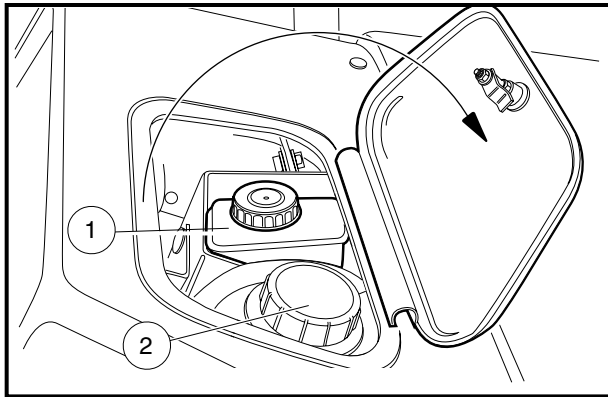

Figure 17 Brake Fluid and Coolant Access Door
The brake fluid reservoir (1) is located under the dashboard (**Figure 17**). Raise the access panel located on top of the dashboard to check the brake fluid level.
The coolant reserve tank is located under the dashboard next to the brake fluid reservoir (**Figure 17**). Raise the access panel located on top of the dashboard to check the coolant level before every operation.